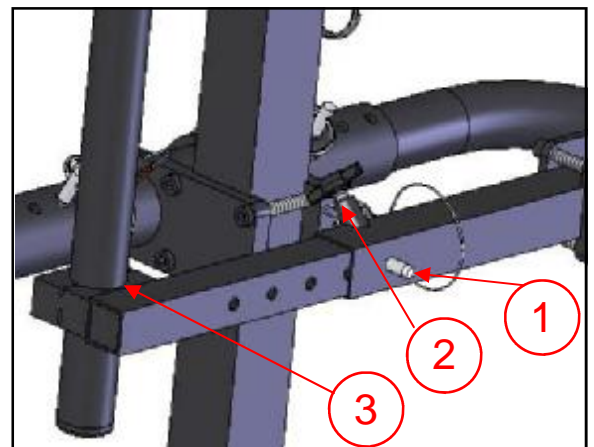

Figure 19B
3. Height: The height can be adjusted by loosening the clamps (3) and moving the handhold posts up or down. Tighten the clamp again when adjusted to fit. Figure 19B